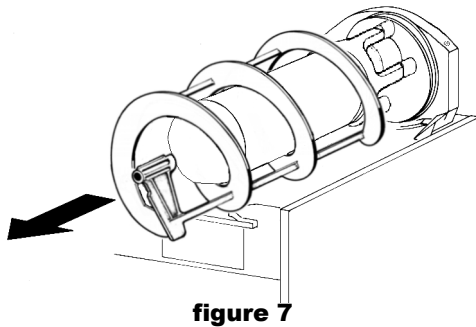

figure 7
- 3** Slide the outer spiral out (see figure 7) and then the inside